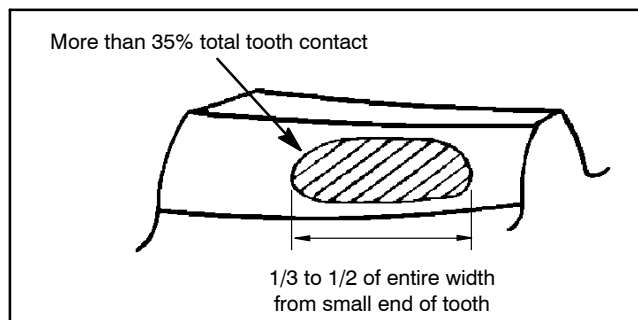

Figure 38
9. Ideal tooth contact should cover more than 35% of each tooth surface. The contact area should be in the center of each tooth and extend 1/3 to 1/2 way across each tooth from the toe (small) end (Fig. 38).